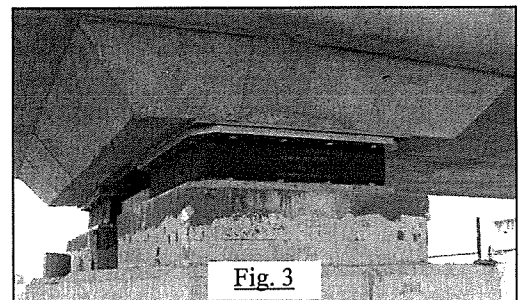

Fig. 3
- (iii) Seismic force on a $(2' \times 2' \times 6'')$ Elastomeric Bearing Pad of MRT-6 (Fig. 3) and comment if this force can dislodge the pad (unit weight 100 lb/ft³) compressed under vertical force $(100 + R_0)$ kips.